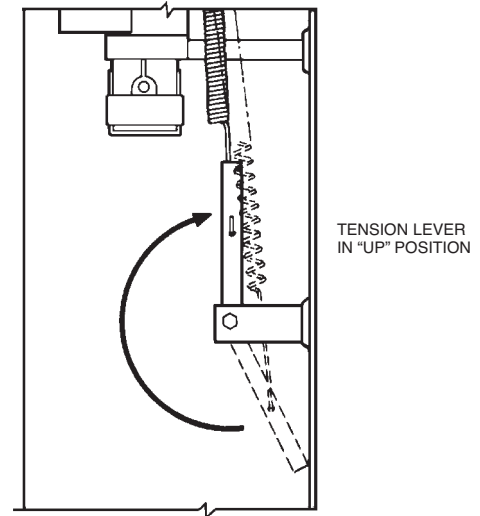

FIGURE 5
- ▶ 19. Raise tension lever to "UP" position. See Figure 5.